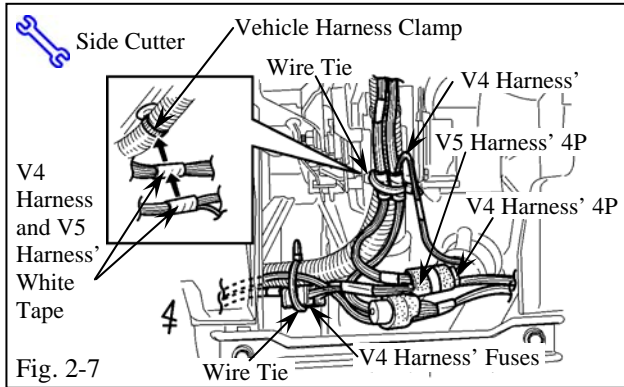

Fig. 2-7
- (h) Locate the vehicle's harness clamp on the steering column area. Secure the V5 harness and V4 harness' white tape to the vehicle harness clamp with one wire tie. (Fig. 2-7)
- (i) Secure the V5 harness and V4 harness' two fuses to the vehicle harness with one wire tie. (Fig. 2-7)